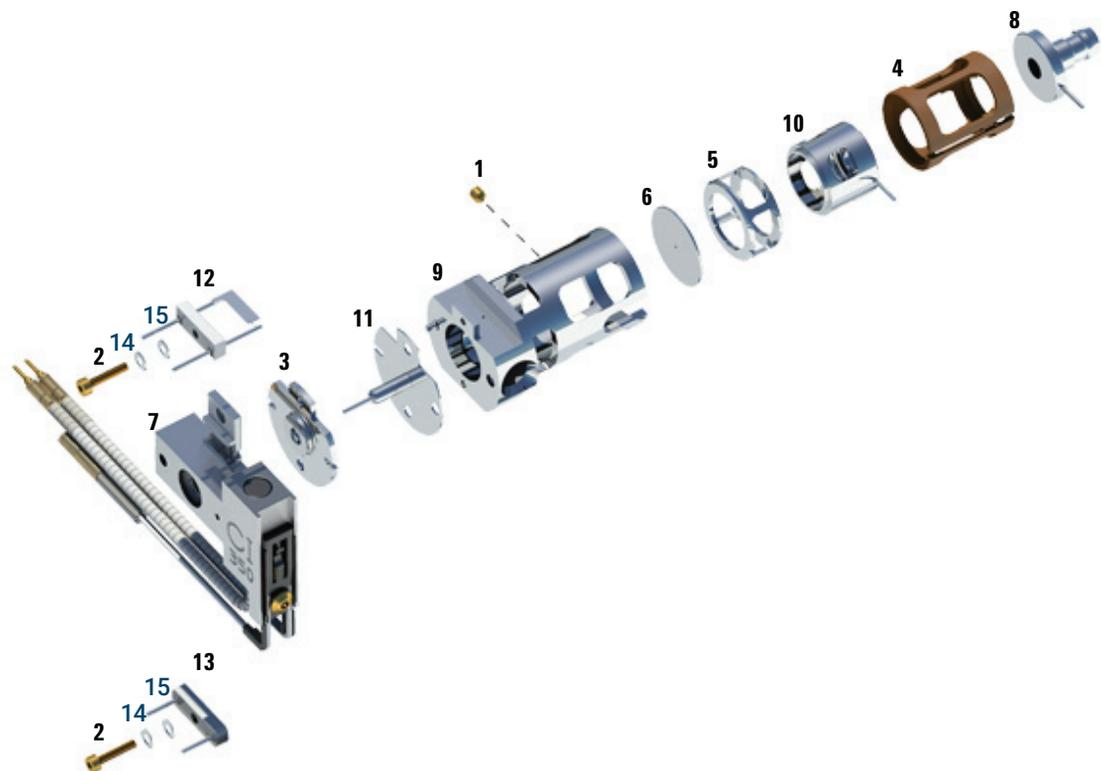

Figure 89. CI source exploded view
Refer to the exploded parts view and the CI source parts list while using this procedure. (See **Figure 89** and **Table 25** on page 271.)
- 1 Assemble the ion focus lens, entrance lens, and lens insulator. (See **Figure 89** and **Table 25** on page 271.)
- 2 Slide the drawout plate and the drawout cylinder into the source body. (See **Figure 89** on page 271.)
Table 25 Parts list for CI source (Figure 89)
Table 25 Parts list for CI source (Figure 89) (continued)